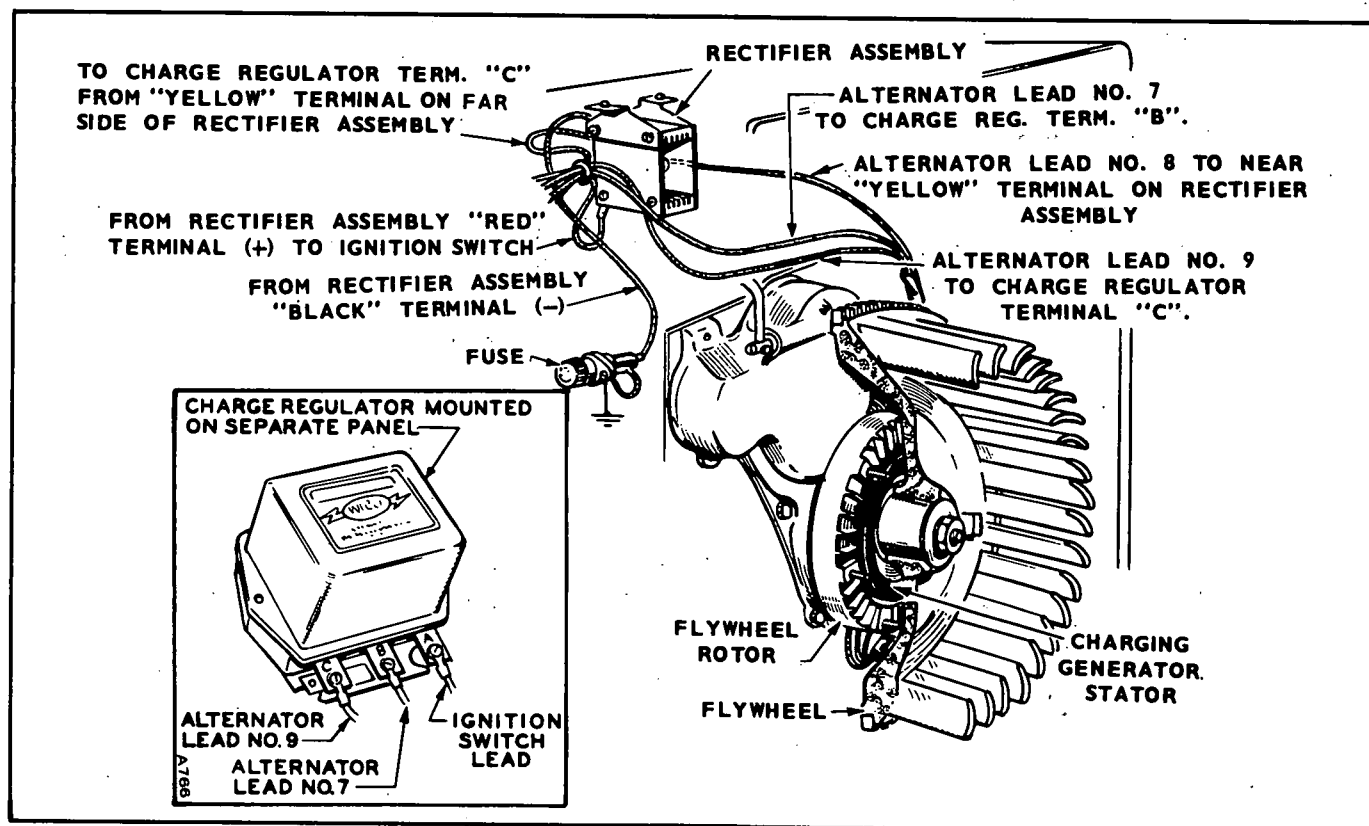

FIGURE 34. FLYWHEEL ALTERNATOR (PRIOR TO SPEC T)
There are four major components in the battery charging system: (1) a permanent magnet on the flywheel provides a rotating magnetic field; (2) a group of coils mounted behind the flywheel on the gear cover cuts the field to produce a voltage; (3) a two-step mechanical regulator controls the AC voltage to the rectifier, and (4) a full wave rectifier converts the regulated AC to DC for battery charging. See Figure 34.